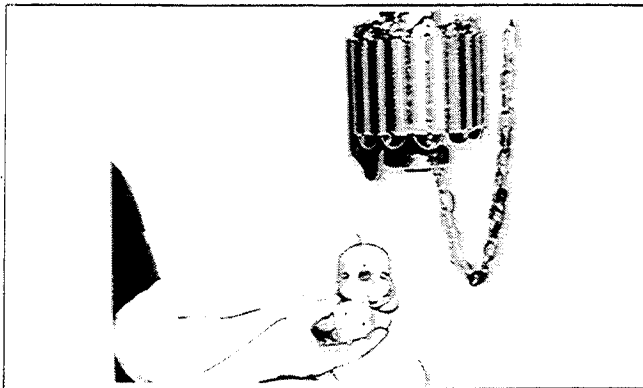

**Figure 6-11. Hoisting Rotor**
9. Fasten lifting eye and hoist hook to rotor flange. Figure 6-11. Hoist rotor to a vertical position taking care not to damage windings, laminations, or bearing.